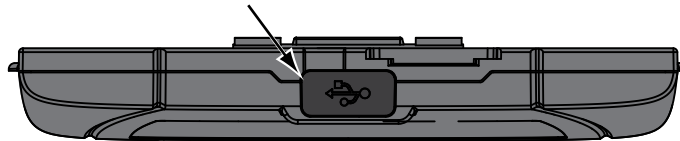

Figure 8-2 *Scope Multimeter module USB port location*
3. Open the USB port cover on the bottom of the Scope Multimeter module (Figure 8-2).